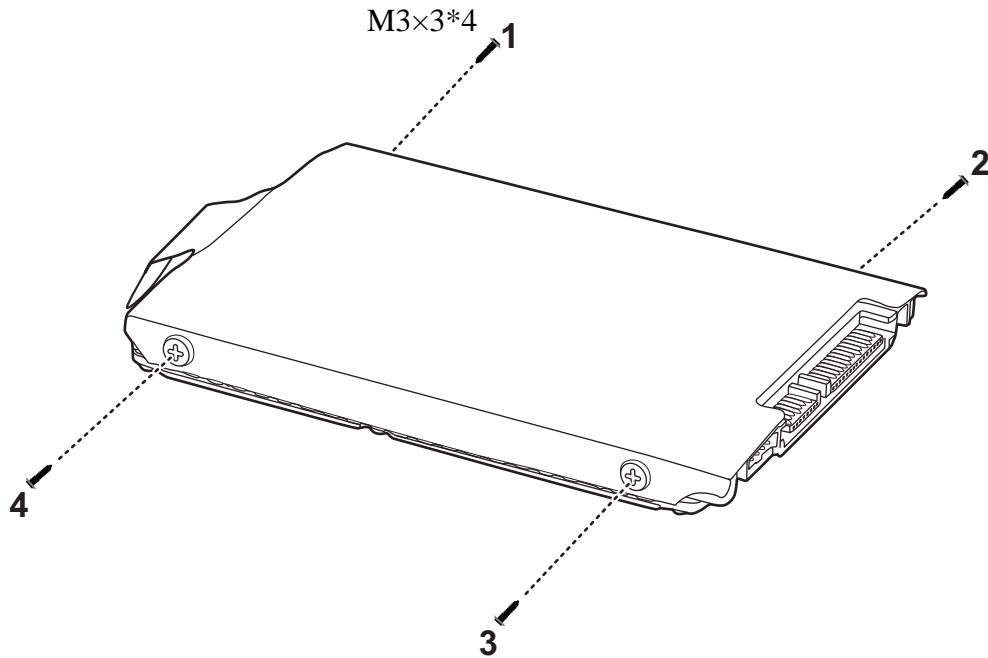

Figure 4.5 Installing the HDD aluminum
- Secure the HDD aluminum foil to the HDD with four M3x3 screws according to the sequence indicated in Figure 4.5.